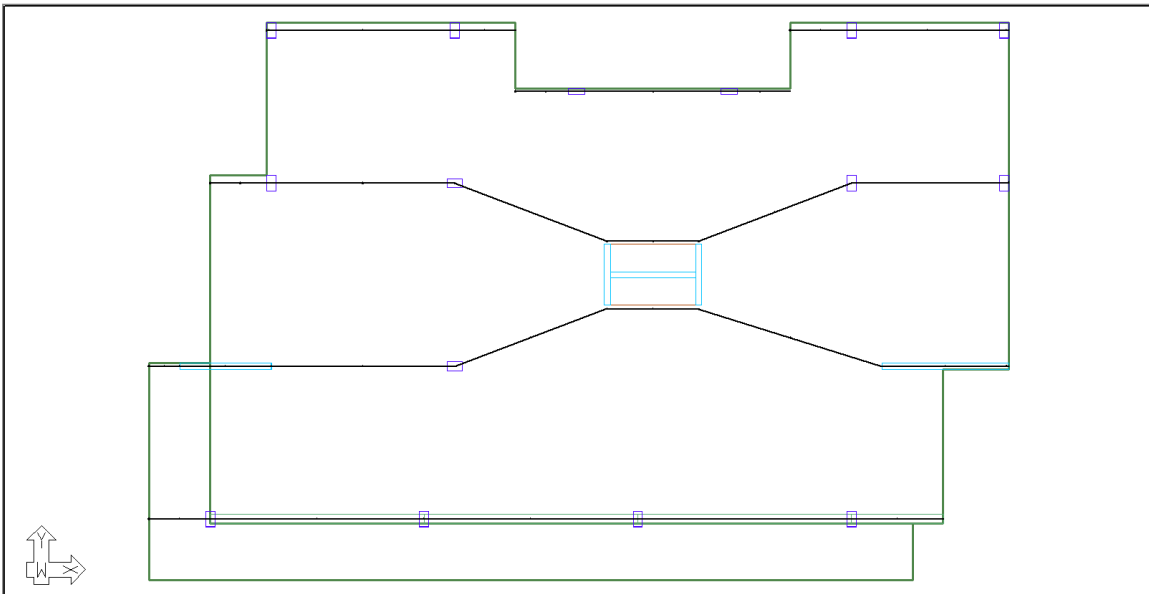

FIGURE 9-35
- Go to *Floor Design->Strip Results/Visibility* and click on the **Display Design Section**  icon. You may have to click the button twice to turn off the design sections completely. You should now see the plan view of the first level with the X-direction support lines visible. Design sections and tributary regions for the support line have been turned off. Your screen should be like **FIGURE 9-35**.